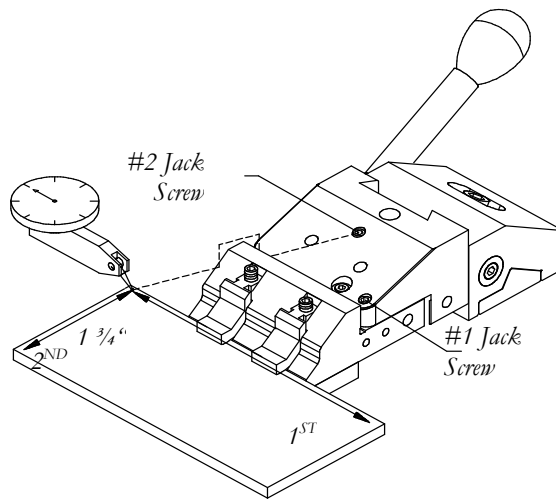

Figure 10
Attach the vertical vise/TD01 with a work piece to a presetting station by holding the TD01 off the plate as shown in Fig. 10.
STEP 15. (A). Assuming the work piece is long and extends beyond the vertical vise, position the indicator ball along an imaginary line made by the #2 jack screw and pivot ball as shown in Fig. 10. **(B).** Zero set the indicator. **(C).** Move the indicator ball to the other end of the work piece along the first-axis. **(D).** Turn the #1 jackscrew until the indicator returns back to zero set. The first-axis is trued.
(A). Place the indicator ball at the edge of the work piece near the vertical vise front as shown in Fig. 10. **(B).** Zero the indicator. **(C).** Move the indicator ball outward 1 3/4 inch in the second-axis direction. **(D).** Take a reading on the indicator. **(E).** Turn the #2 jackscrew until the indicator returns to the zero set and continue past the same amount as the reading.